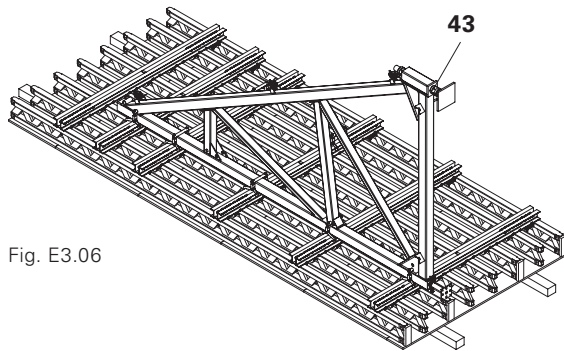

Fig. E3.06
1. Remove Adjustment Unit-2 (43) and pack separately for transportation.
2. Stack Brace Frames and secure with steel strapping, see A1. (Fig. E3.06)